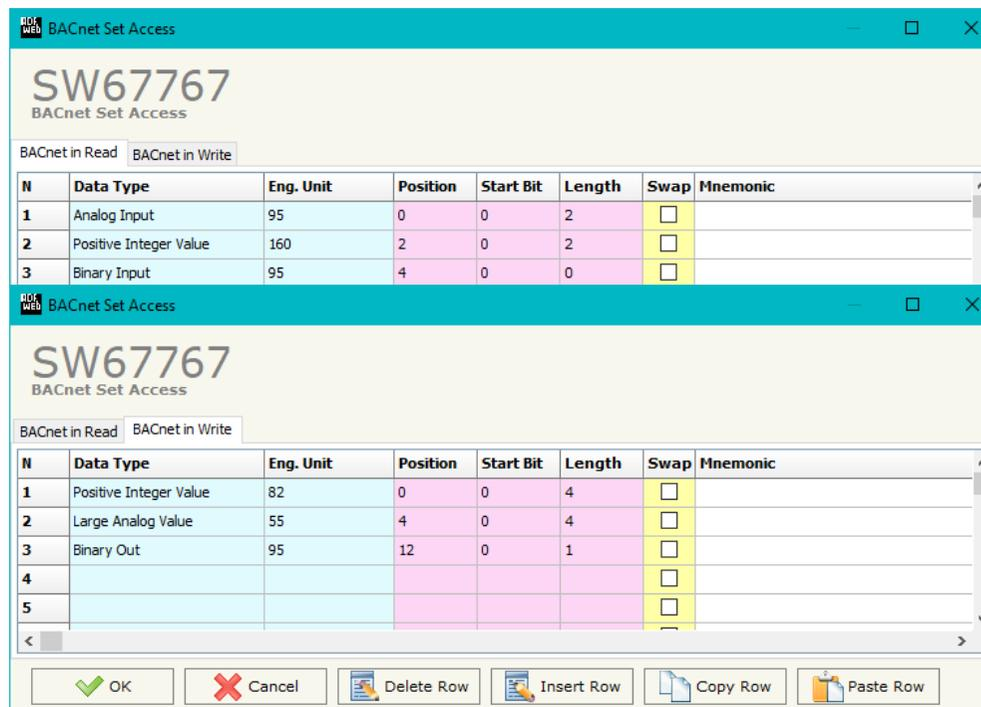

Figure 8: **“BACnet Set Access”** window
By Pressing the **“Set BACnet Access”** button from the main window for SW67767 (Fig. 2) the window **“BACnet Set Access”** appears (Fig. 8).
- In the field **“Eng. Unit”**, with double click the window **“Select the BACnet Engineering Unit”** appears (Fig. 8);